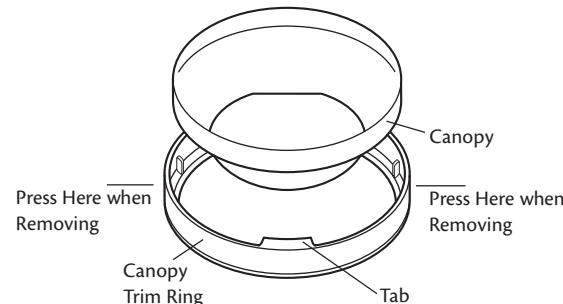

Figure 21 - Canopy trim ring
1. To easily install the canopy trim ring, locate the two tabs on the canopy trim ring. See Figure 21.
- Take both hands and push the canopy trim ring up to the top of the canopy. See Figure 21.